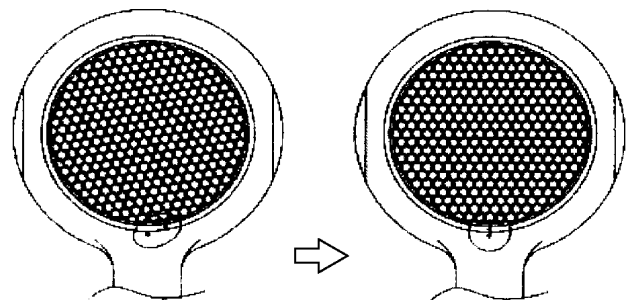

Figure 9
13. Assemble air inlet grill into back housing by aligning mark of air inlet grill mesh and mark of back housing as shown in Figure 9.